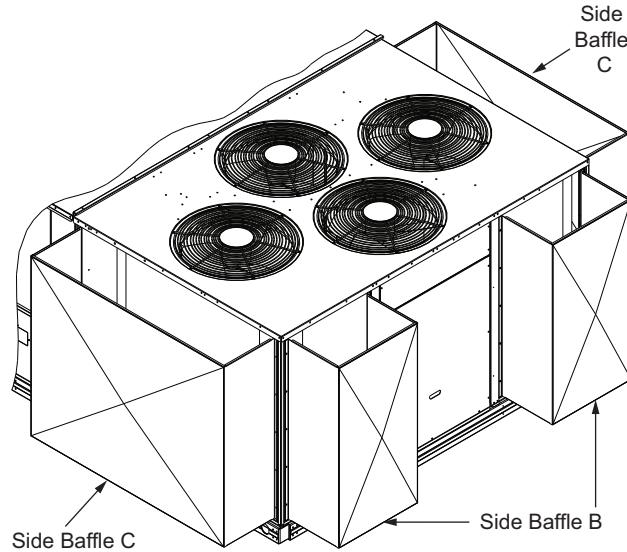

Fig. 30 — Cabinet C — Wind Baffle Locations for 48/50FC24, 48/50GC**20, 582K/559K*24, 581K/551K*20 RGV/RAV240, and RGW/RW210 Units**
- For 48/50FC**24, 48/50GC**20, 582K/559K*24, 581K/551K*20, RGV/RAV240, and RGW/RW210 units, use Fig. 30, Fig. 32-33, and Table 6.